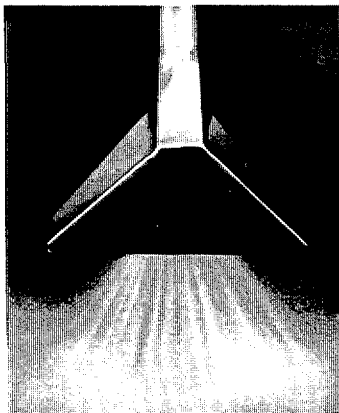

Fig. 6
7. Start unit with cleaning wand and hoses connected and spray into a bucket for 20 seconds to allow the antifreeze to protect the high pressure gauge and system lines. After running the wand spray for 20 seconds, shut wand off and let it run for 10 seconds to allow the bypass system to be protected. (fig. 6)